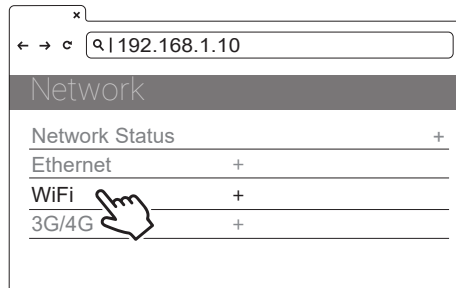

Figure 35. Network Select
- 2) Select Wi-Fi Module. See Figure 35.